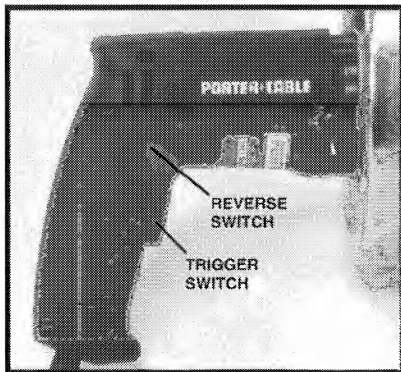

Fig. 3
CAUTION: Make sure TRIGGER SWITCH (Fig. 3), is OFF. Make sure power circuit voltage is the same as that shown on the specification plate of the Drain Cleaner. Make sure cable is fully retracted into drum. Connect Drain Cleaner to power circuit.
1. Squeeze TRIGGER SWITCH (Fig. 3), to start motor. Release trigger switch to stop motor. As the trigger switch is squeezed, the motor speed increases.
2. The REVERSING SWITCH (Fig. 3), changes the direction of rotation. FORWARD rotation is used when feeding the cable into the drain and when removing cable from drain. REVERSE rotation is ONLY used to free the cable if it gets hung up.